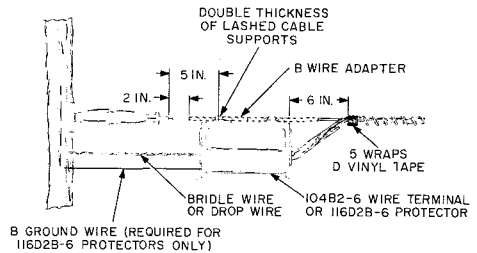

Fig. 1—Multiple Line Wire Deadend
- (1) Place the 3-wire set first, starting at the center which is marked by paint, as shown in Fig. 3. Place the 3-wire set (gauge by eye) on the support wire so that it is centered at the terminal clamp nearest the pole (Fig. 1). Wrap the set so it is spiraled around the
(b) Start the second B Wire Adapter on the support wire with the paint mark about 3 inches from the end of the first B Wire Adapter so that it is centered at the far terminal clamp. (Fig. 1).